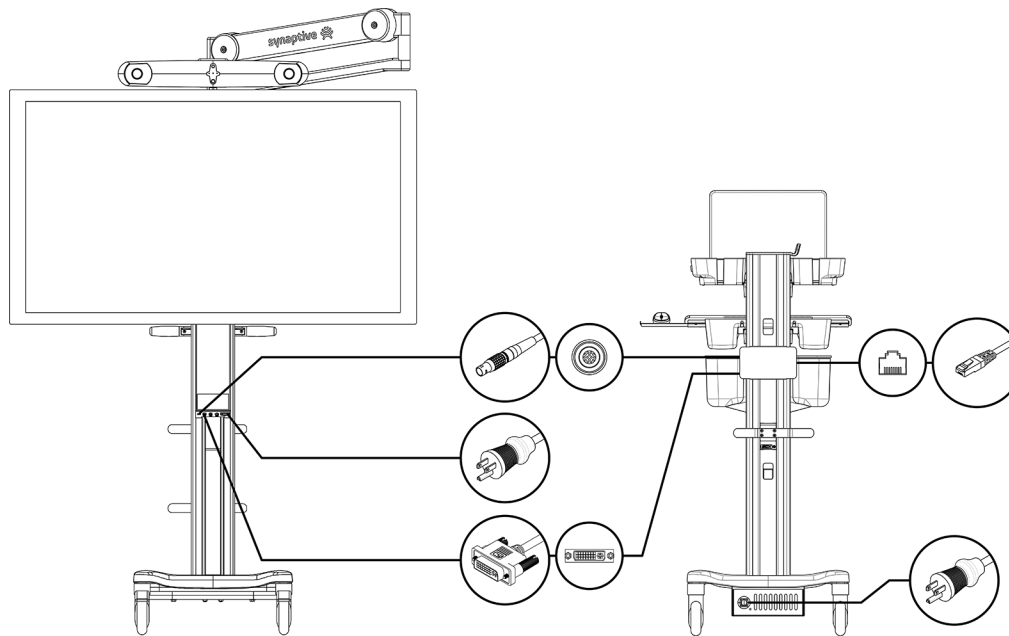

Figure 5 Modus Nav cable connections
Figure 5 below shows the Modus Nav cart cable connections.
1. Connect the tracking camera and video cables as indicated in Figure 5 above.